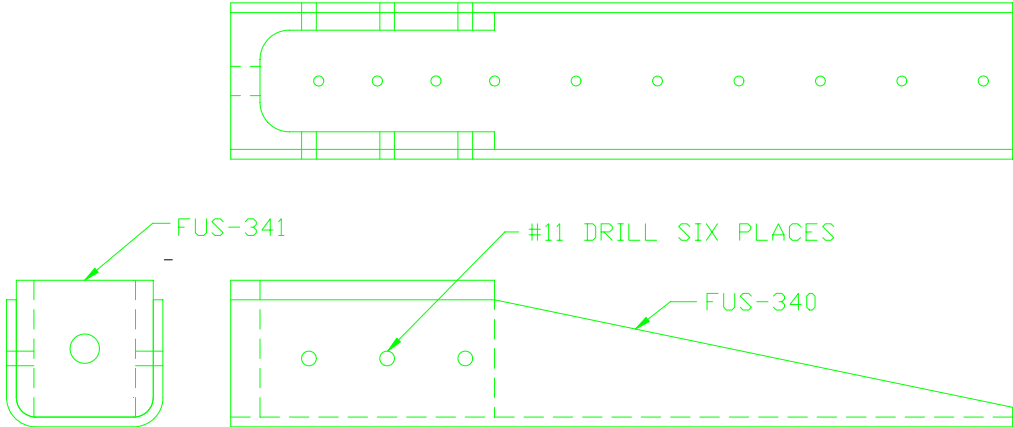

FIGURE 4
- 5) Insert a FUS-341 engine mount fitting into FUS-340 engine mount bracket and drill the six side holes to #11. Figure 4.